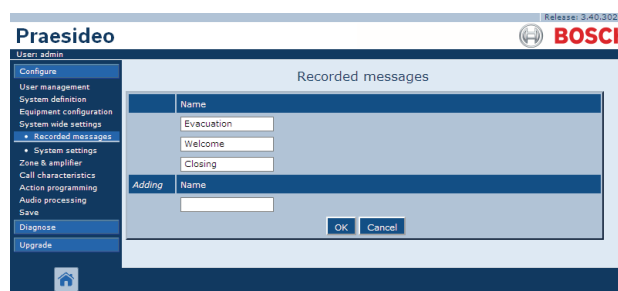

figure 45.3: Register message, step 2
- 2 Click the *Add* button to add a recorded message. A screen similar to the one in figure 45.3 appears in the main frame of the web interface.